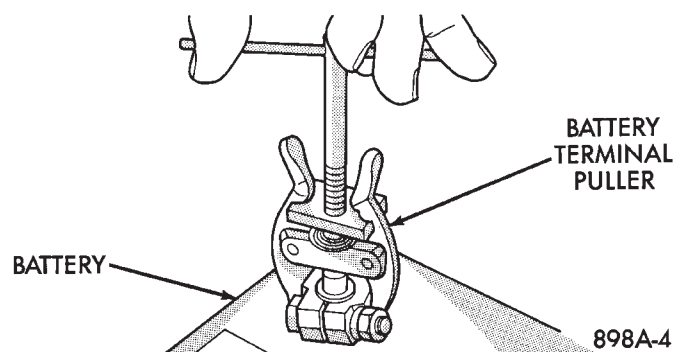

Fig. 15 Remove Battery Cable Terminal Clamp - Typical
(1) Turn the ignition switch to the Off position. Make sure all electrical accessories are turned off.
(2) Loosen the cable terminal clamps and disconnect both battery cables, negative cable first. If necessary, use a puller to remove the terminal clamps from the battery posts (Fig. 15).